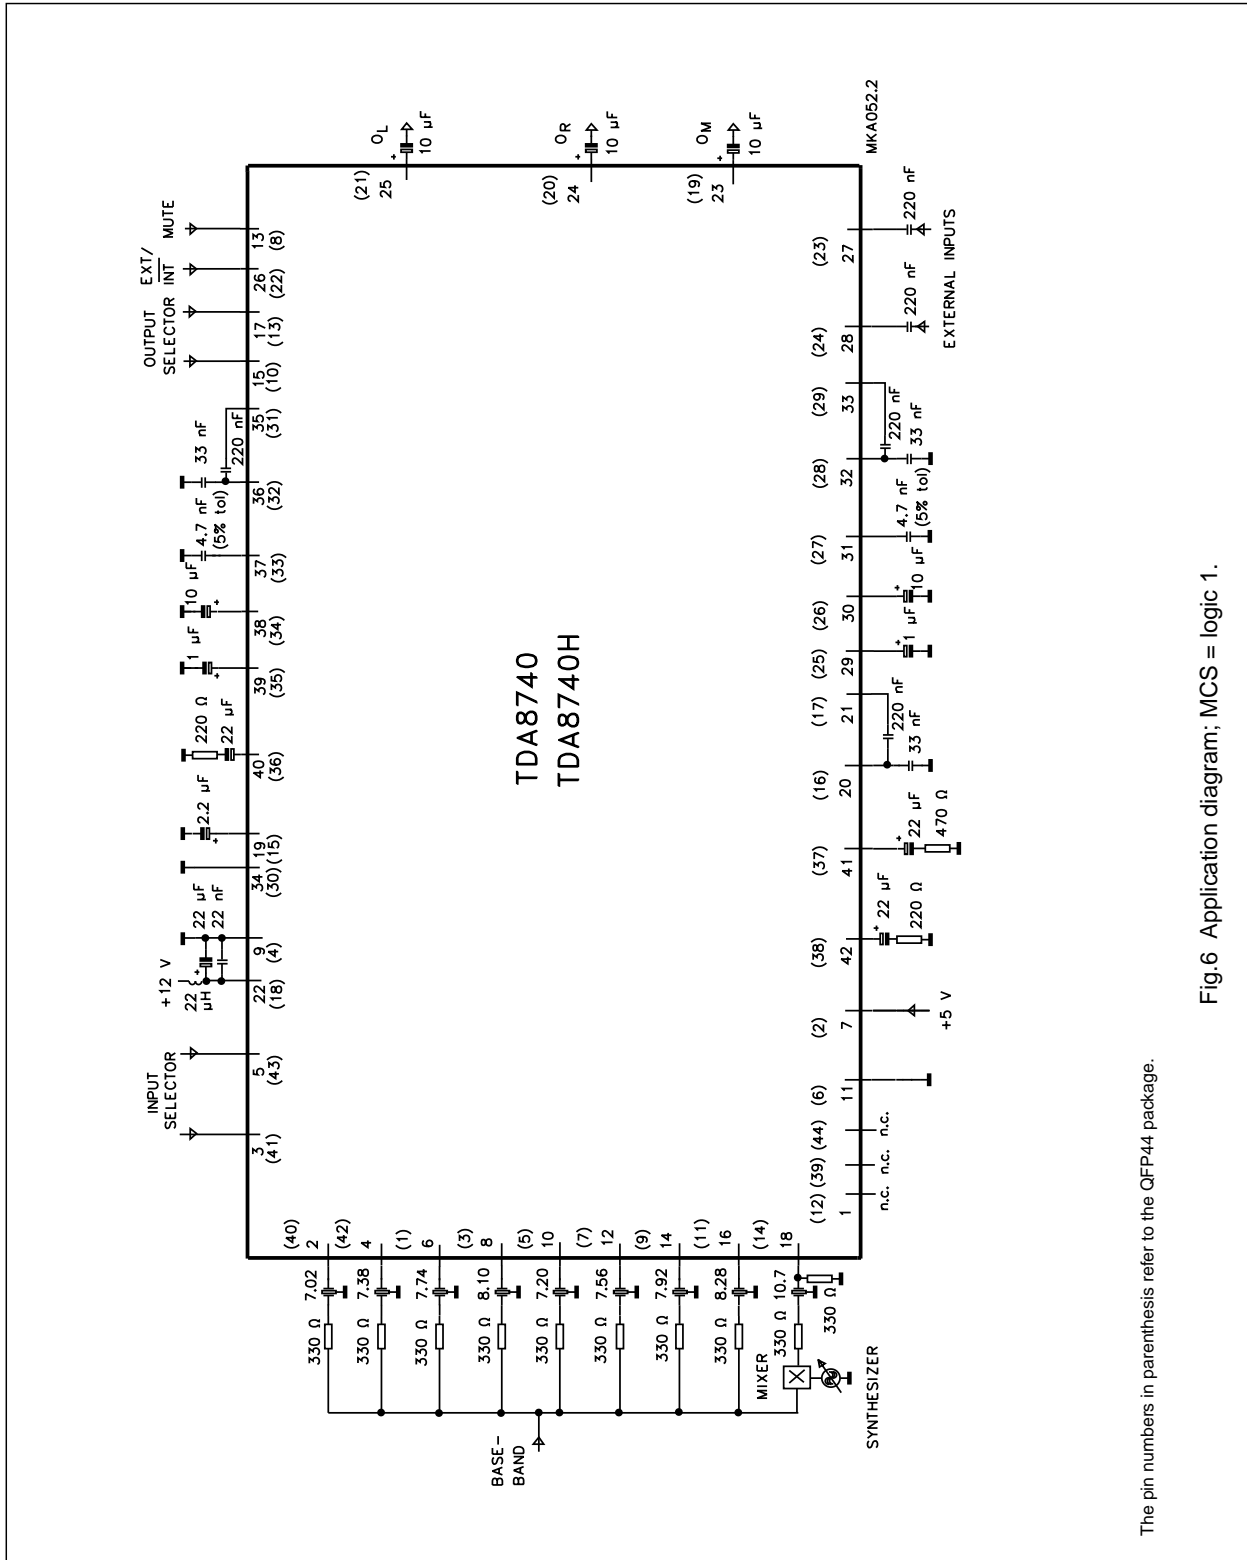

Fig.6 Application diagram; MCS = logic 1.
#### MCS pin 7 (2) = logic 1; (see Fig.6)